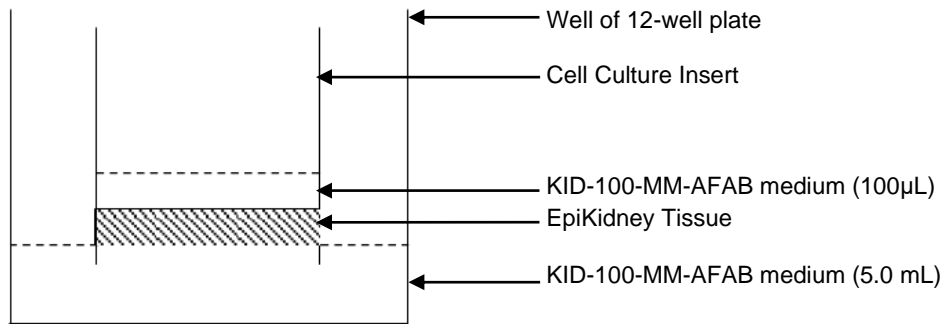

Figure 2: Pre-equilibration of EpiKidney tissue (overnight at 37°C, 95% rH, 5% CO₂).
- c) **Transfer tissues:** Under sterile conditions, open the package containing the tissue samples and using sterile forceps, transfer the inserts from the agarose package into the hanging-top lid (**Figure 1C**). Care should be taken to remove all agarose sticking to the outside of the cell culture inserts containing the tissue samples. Pipette 100 µL of the pre-warmed KID-100-MM-AFAB medium (provided) onto the apical surface of each tissue (**Figure 2**).